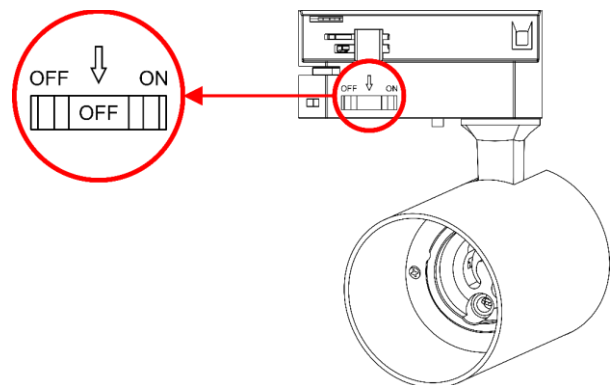

Fig. 11
- 03) Set the **power switch (05)** to OFF position, as shown in Fig. 11.